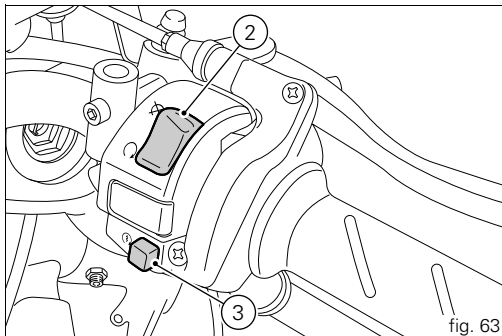

fig. 63
- 2) Check that the stop switch (2, fig. 63) is positioned to  (RUN), then press the starter button (3, fig. 63).